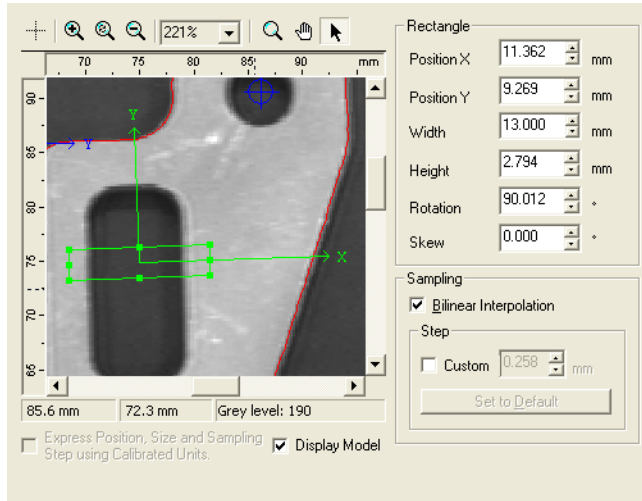

Figure 97 Adjusting the Size, Position and Orientation of the Caliper Rectangle
8. Place the Rectangle on the part as shown in Figure 97.